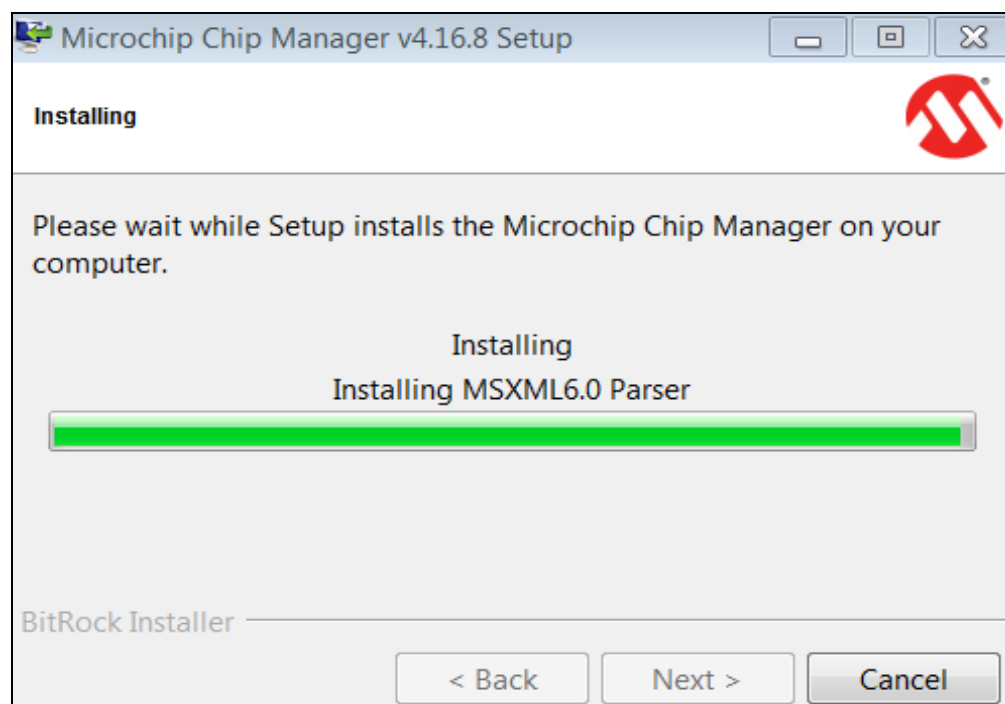

FIGURE 2-6: Setup Window – Installation Progress.
9. The application setup window appears, showing the installation progress (see Figure 2-6).